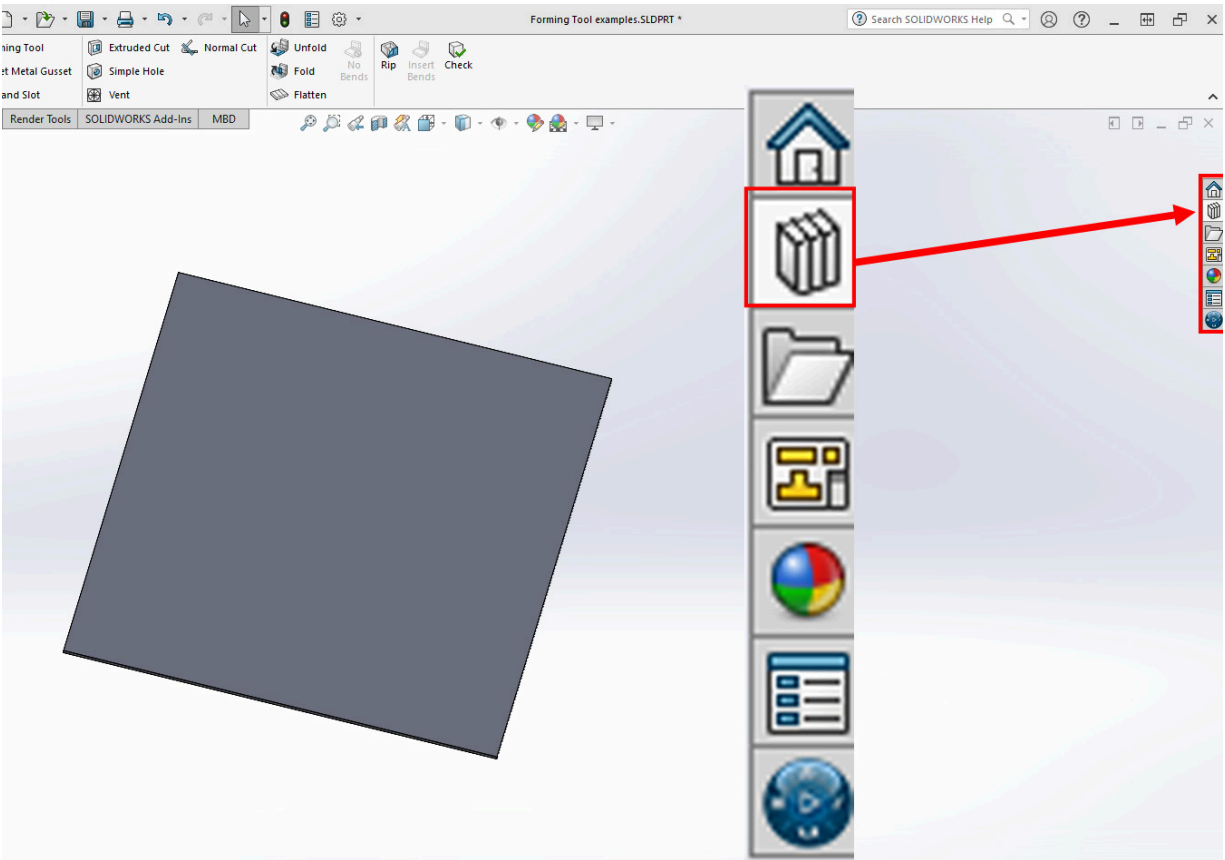

Figure 10.2: Opening the Design Library tab
2. Open the **Design Library** by clicking on the icon (it looks like a set of books) in the **Task Pane** at the right-hand side of the screen, as indicated in *Figure 10.2*.